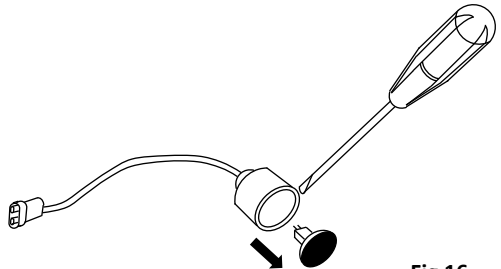

Fig 16
**Dichroic lamp G4 attachment:** Use a screwdriver to remove and change the dichroic lamp (**Fig 16**).